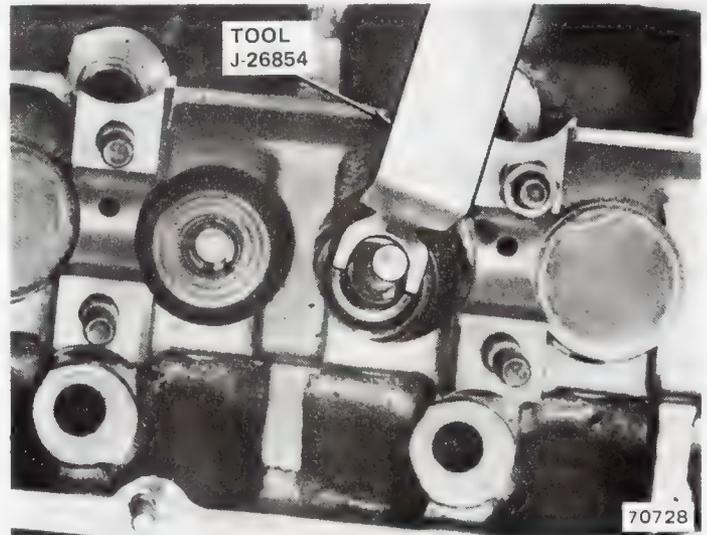

Fig. 1B-27 Removing Valve Stem Oil Seal
- (7) Connect air hose to adapter and maintain at least 90 psi in cylinder to hold valves against their seats.
- (8) Place 13/16-inch socket on each retainer and strike with hammer to loosen valve locks.
- (9) Use Valve Spring Compressor J-26809 to compress springs (fig. 1B-23). Remove locks.
- (10) Remove retainer and springs.
- (11) Remove oil seal using Valve Stem Oil Seal Remover J-26854 (fig. 1B-27).
Use Valve Spring Tester J-8056 to test each valve spring for specified tension value (fig. 1B-28). Replace springs that are not within specifications.